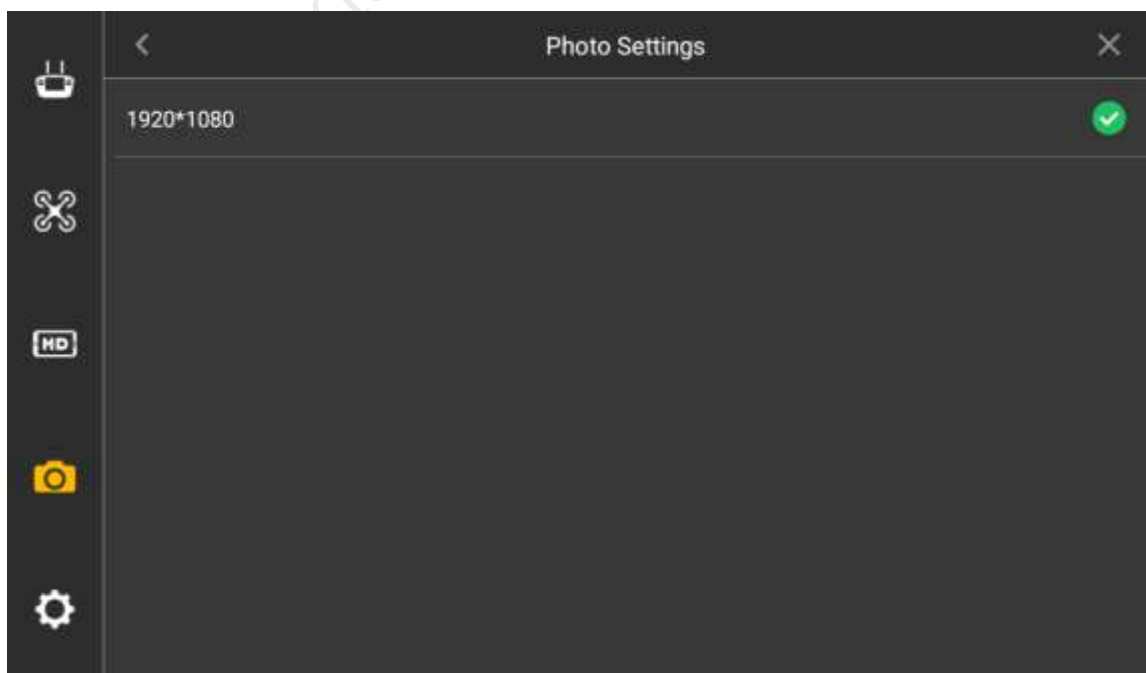

Figure 4-29
Step 1 Select "Settings > Camera Settings > Photo Settings", and the system will display the interface of "Photo Settings", as shown in Figure 4-29.